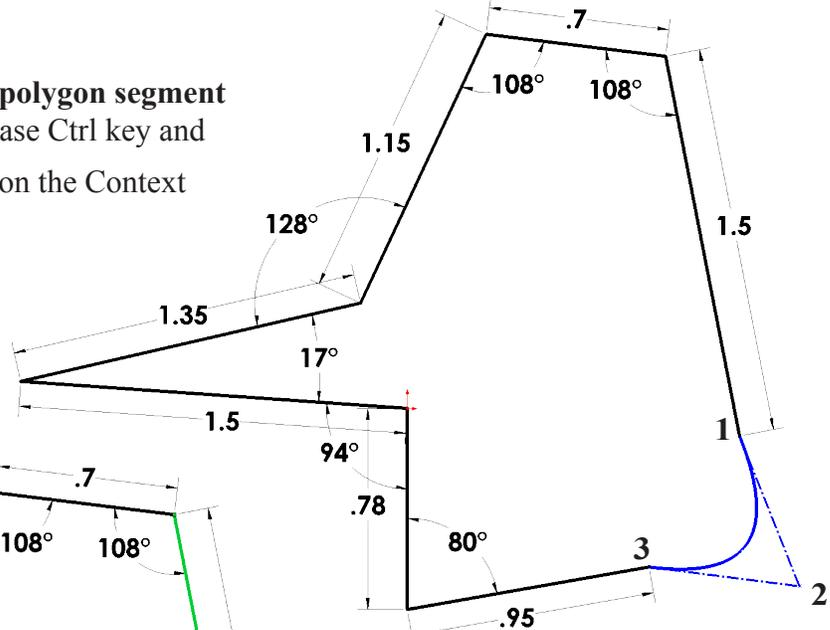

Fig. 6
Step 2. Draw a **3 control vertex point Spline**, **Fig. 6**. Press Escape to end spline.